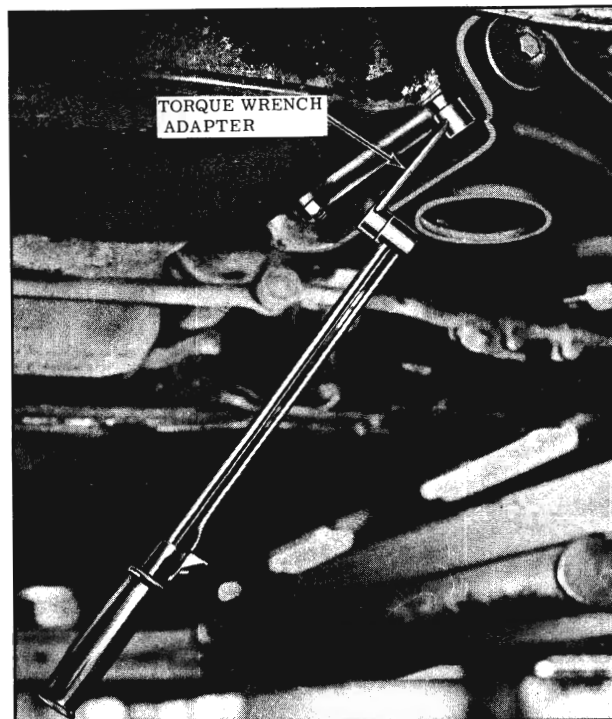

Fig. 5-21 Pivot Shaft Torque Operation
1. If the lower control arm was removed, connect control arm pivot shaft to frame cross member. Torque pivot shaft nuts 75 to 95 ft. lbs. using a torque wrench adapter. (Fig. 5-21)